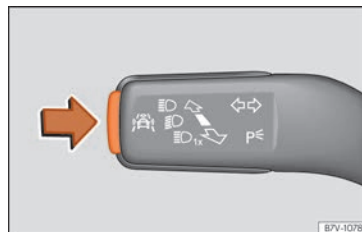

**Fig. 83** On the turn signal and main beam lever: button for driver assistance systems.
- Briefly press the » Fig. 83 button to open the **Assistants** menu.